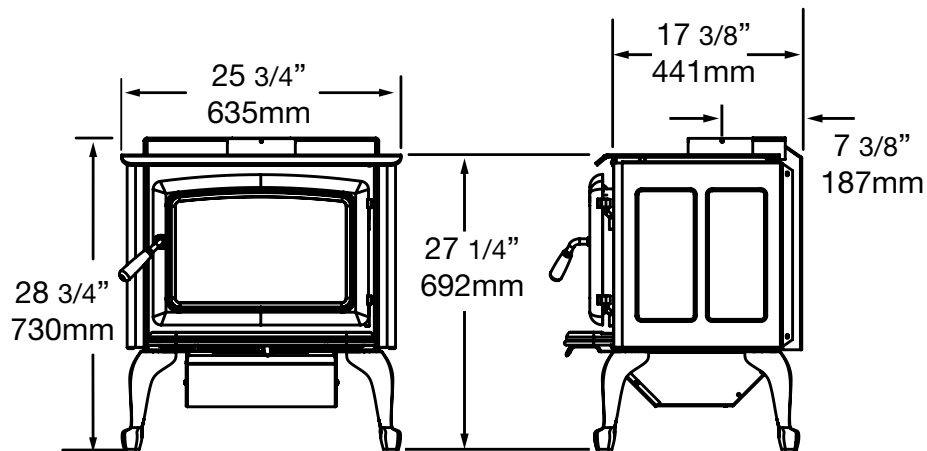

Figure 4: Baffle board installed.
4. Insert the baffle board above the rear brick rail then tilt up and slide in above the baffle tubes inside the firebox and under the retaining tabs on the baffle air channels. **Caution - Baffle Board material is very fragile.** (Figure 4)